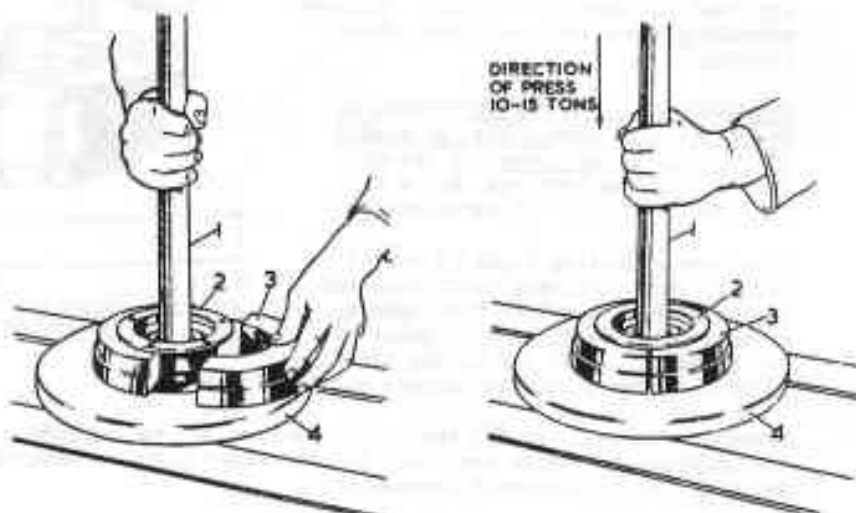

FIG. J3. REMOVING BEARING AND HOUSING.
2. Use extractor, or remove bearing as shown in Fig. J3.